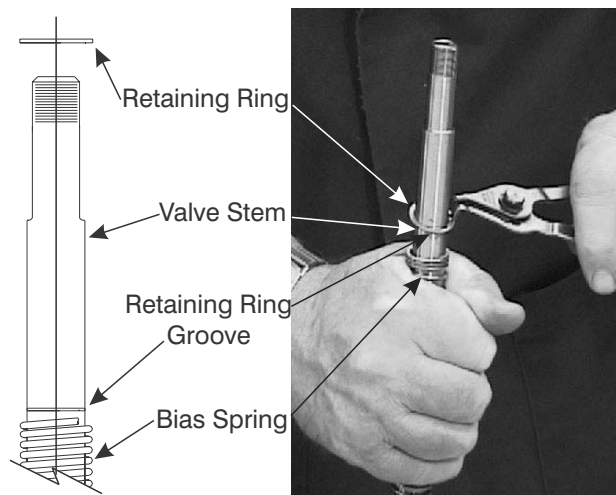

Figure 9-17. Secure Bias Spring and Seat on Valve Stem.
3. Depress the Bias Spring (9) and install Retaining Ring (8) onto the Valve Stem (11) to secure the Bias Spring and Seat in place as shown in Figure 9-17.